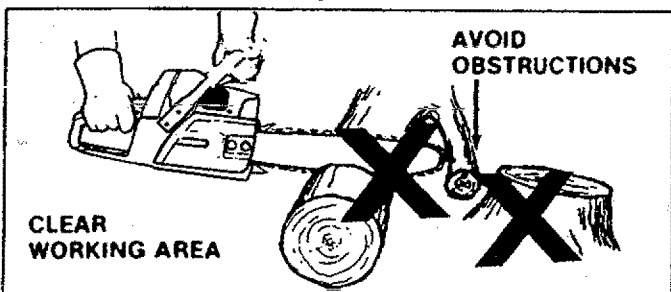

Figure 2
3. **Keep the working area free from obstructions such as other trees, branches, rocks, fences, stumps, etc.** Figure 2. Eliminate or avoid any obstruction that your saw chain could hit while you are cutting through a particular log or branch.